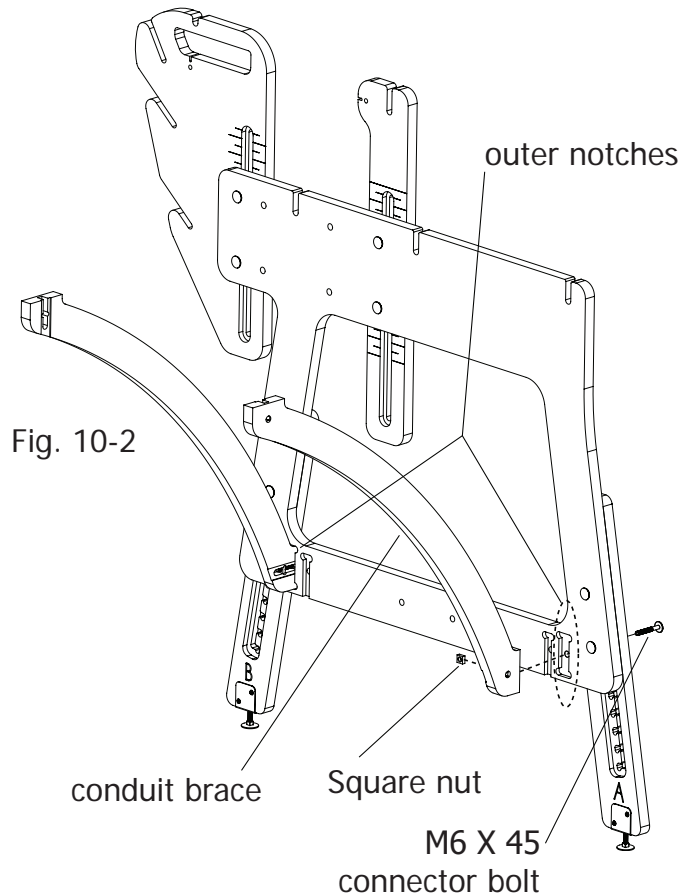

Fig. 10-2
**Step 10-3:** Thread the connector bolts into the square nuts located in the conduit braces, as shown in Fig. 10-2.
**Note:** Make sure that you attach the conduit braces with their notches facing toward the middle of the frame, as shown in Fig. 10-2.